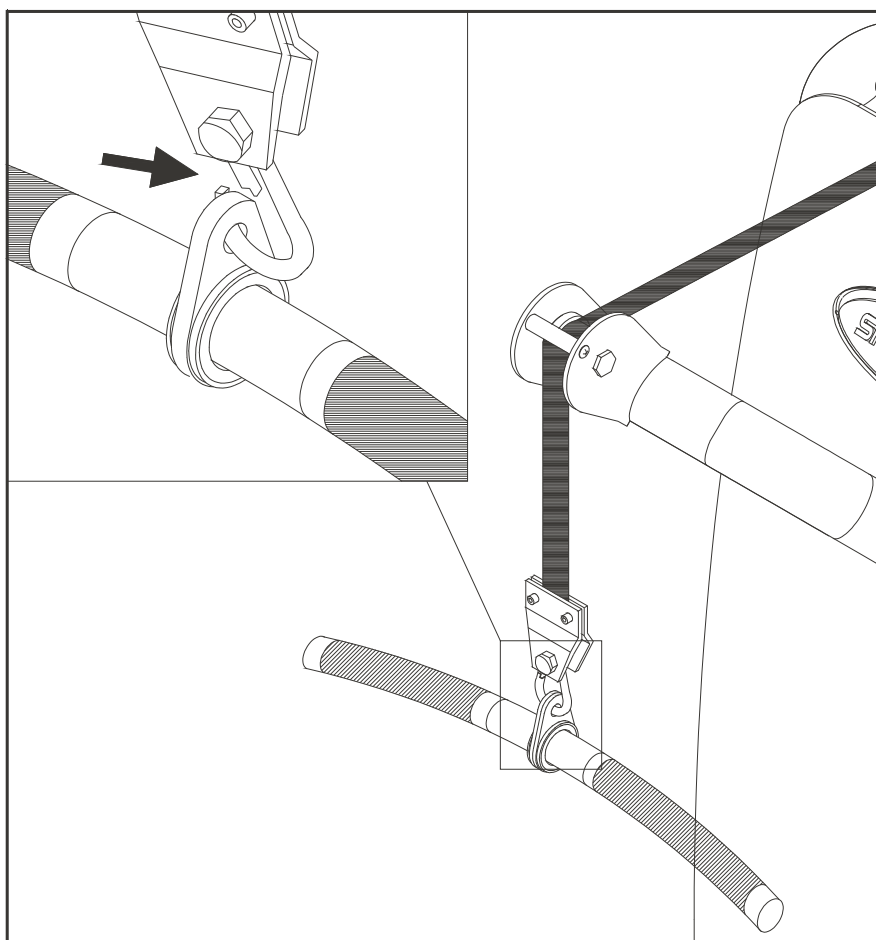

Fig.2
3. Assemble the grip with the hook as shown in Fig. 2.